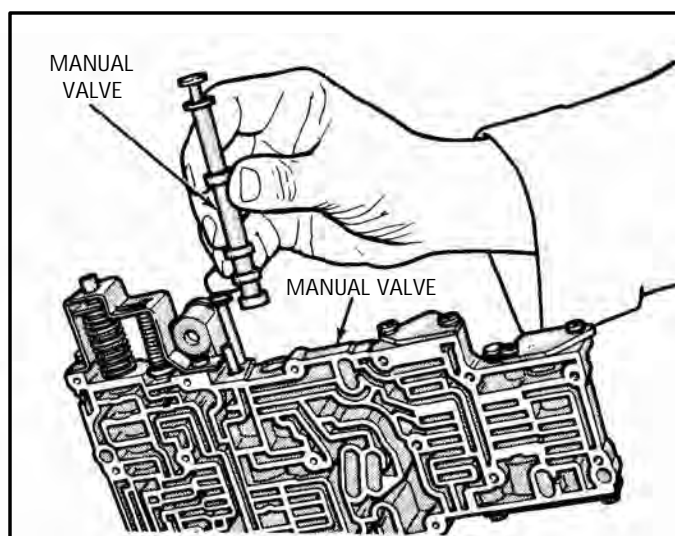

Figure 99
9. Remove the manual valve from the valve body, as shown in Figure 99.